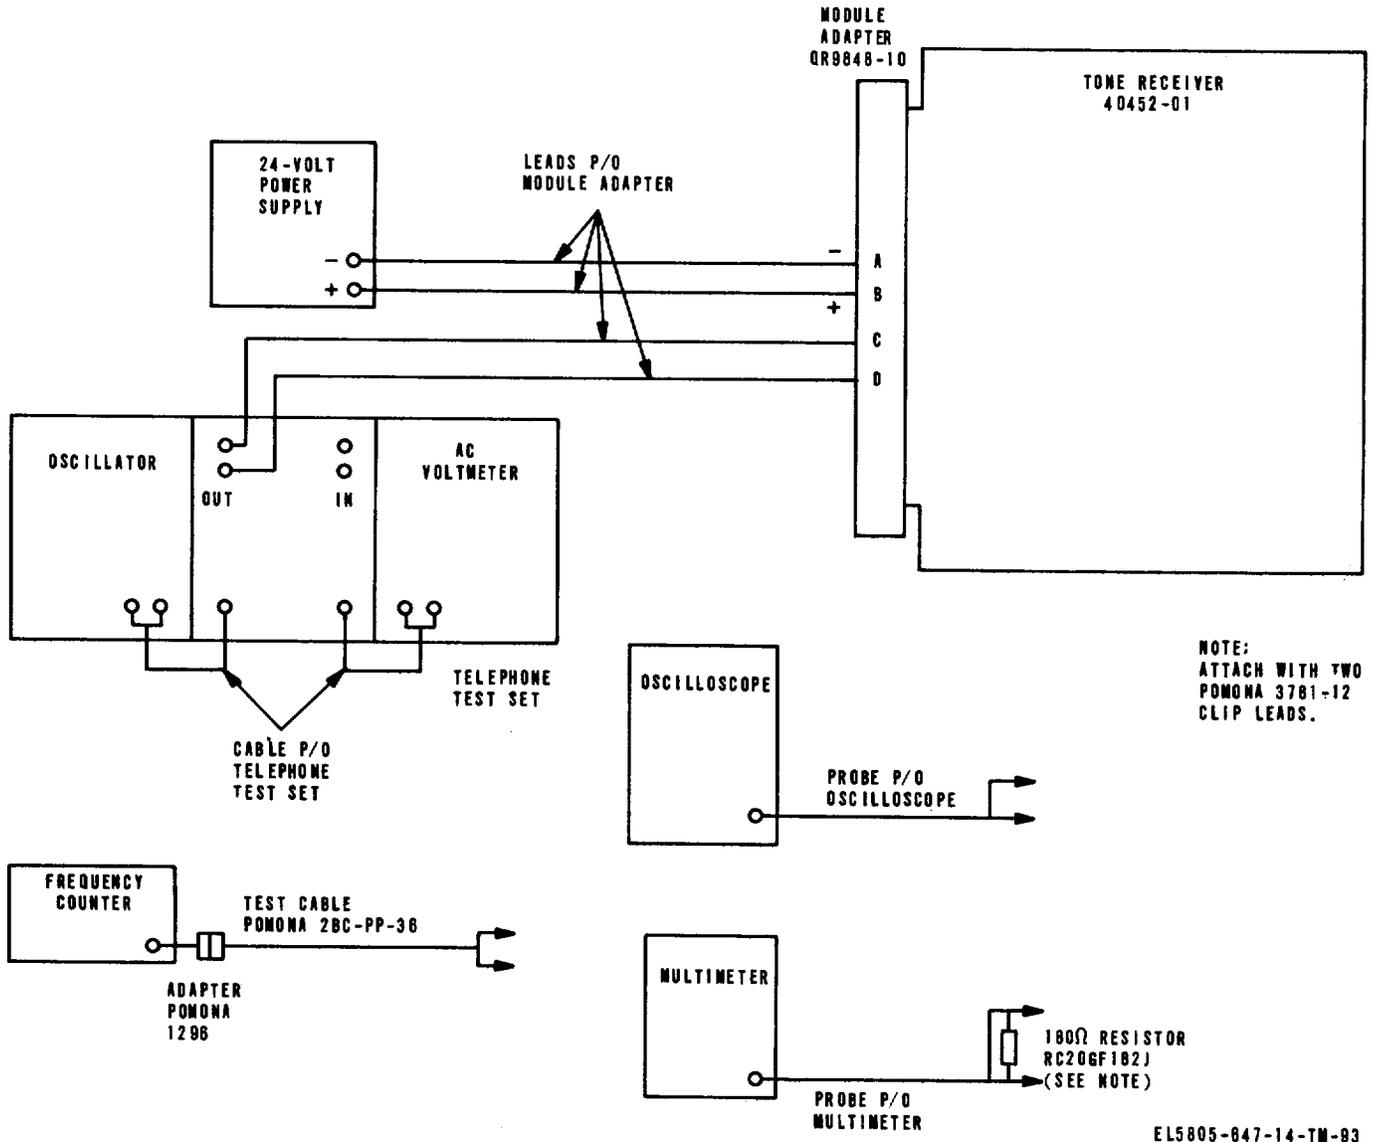

Figure 6-13. Tone Receiver 40452-01, initial test setup diagram.
- (1) Connect the test equipment as shown in figure 6-13.
- (2) Turn on all test equipment and allow for a warmup period as recommended in the technical manual for each test equipment.
- (3) Adjust the output of the power supply for 24 vdc.